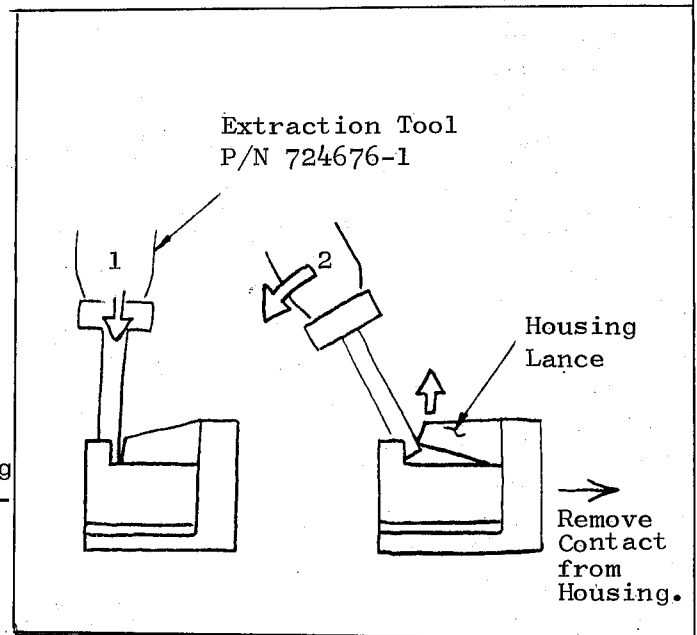

Fig. 7
- (1) Apply tip end of extraction tool to the contact of the position you desire to remove from housing as shown in Fig. 7.
- (2) Then, release housing locking lance by lifting up the lance in the manner as you are digging the lance up with the tip end of extraction tool 2 in Fig. 7. Contact can be now removed from housing.